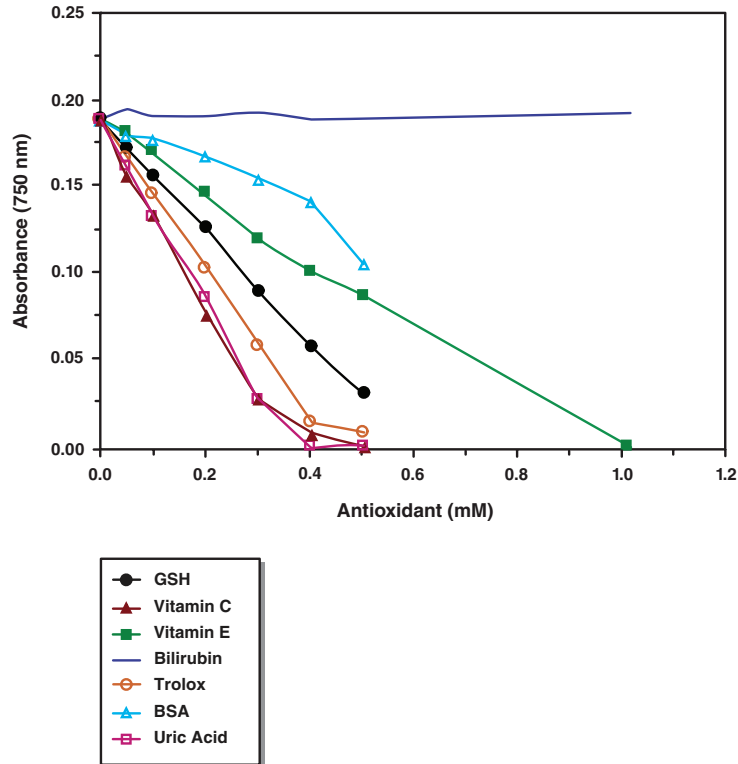

Figure 1. Inhibition of ABTS® oxidation by antioxidants
Cayman's Antioxidant Assay can be used to measure the total antioxidant capacity of plasma, serum, urine, saliva, cell lysates, or tissue homogenates. Aqueous- and lipid-soluble antioxidants are not separated in this protocol, thus the combined antioxidant activities of all its constituents, including vitamins, proteins, lipids, glutathione, uric acid, etc. are assessed (see Figure 1 on page 8). The assay relies on the ability of antioxidants in the sample to inhibit the oxidation of ABTS[®] (2,2'-azino-di-[3-ethylbenzthiazoline sulphonate]) to ABTS^{®•+} by metmyoglobin. The amount of ABTS^{®•+} produced can be monitored by reading the absorbance at 750 or 405 nm. Under the reaction conditions used, the antioxidants in the sample cause suppression of the absorbance at 750 or 405 nm to a degree that is proportional to their concentration.²⁻⁵ The capacity of the antioxidants in the sample to prevent ABTS[®] oxidation is compared with that of Trolox, a water-soluble tocopherol analogue, and is quantified as millimolar Trolox equivalents (TE).